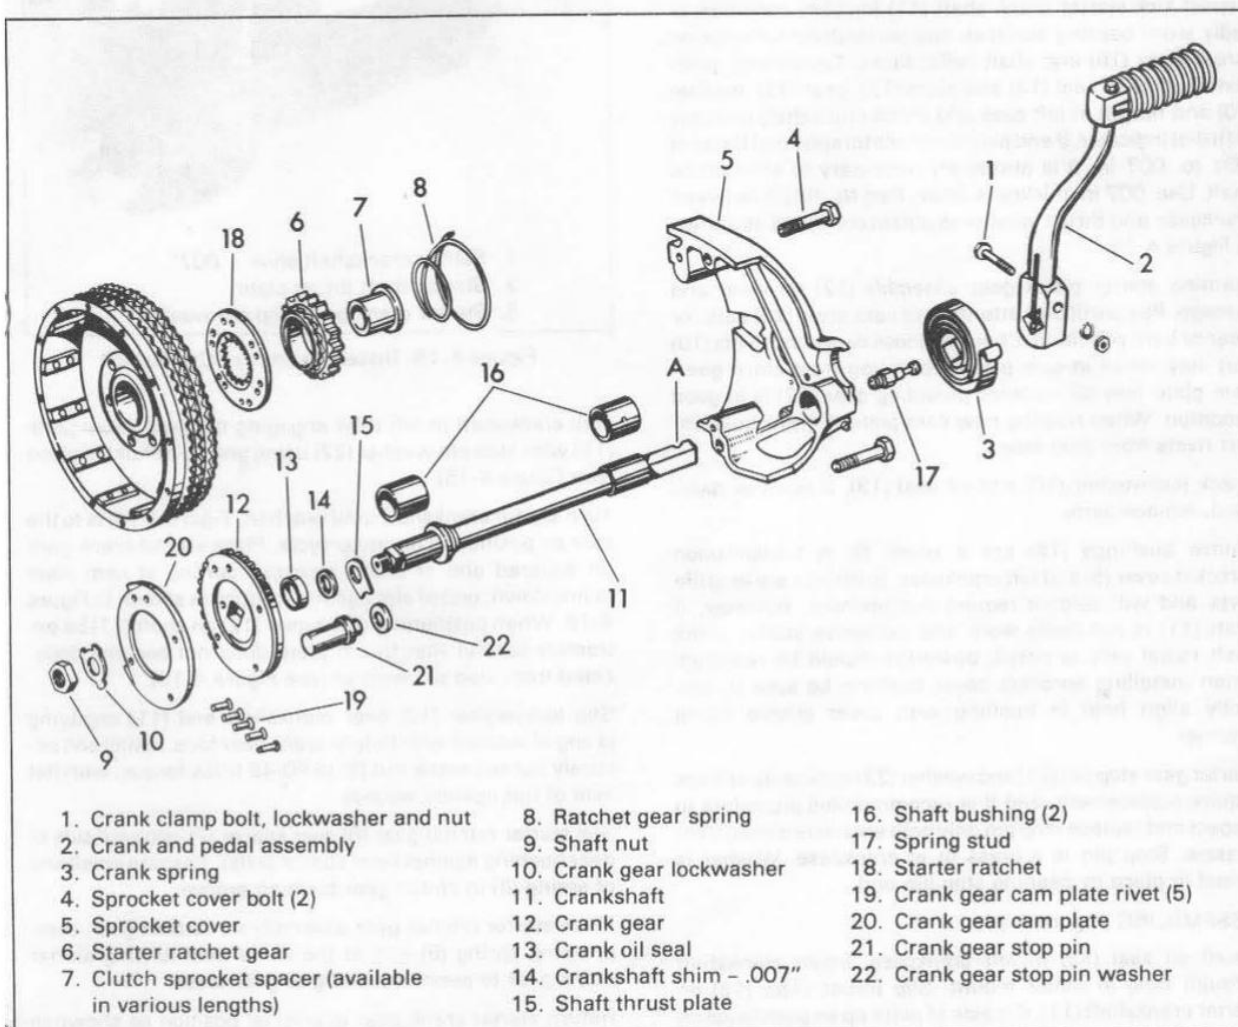
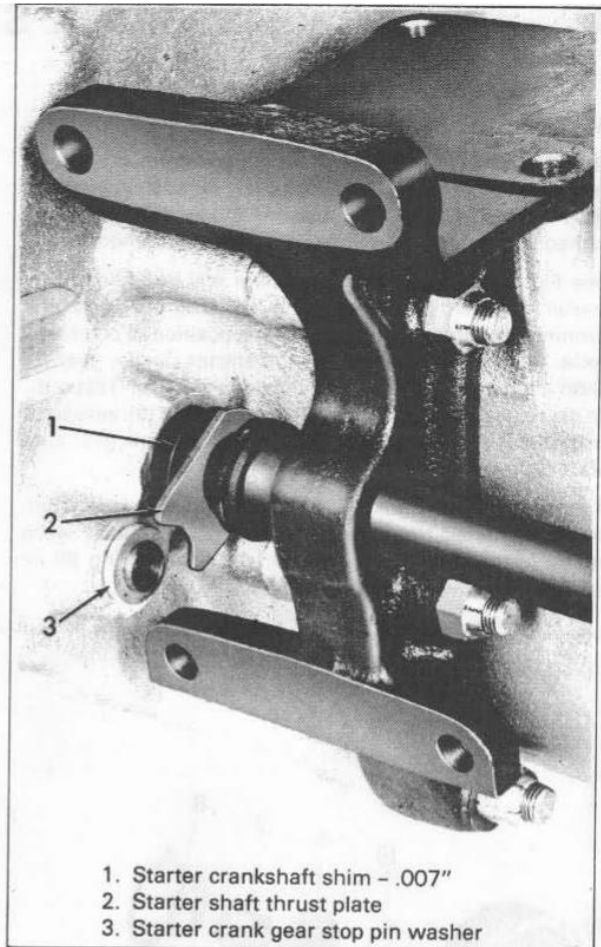
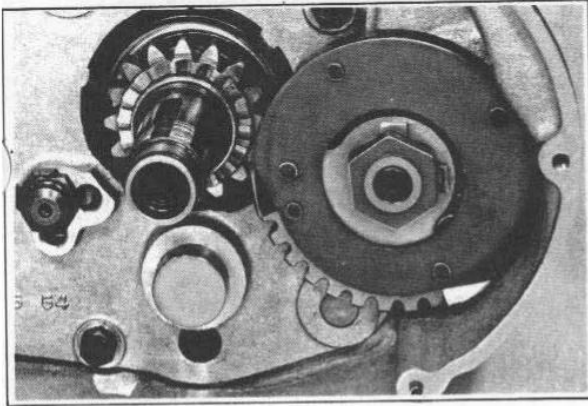

Figure 4-14. Kick Starter - Exploded View
Figure 4-15. Installing Starter Crankshaft
Figure 4-16. Positioning Starter Crank Gear on Starter Shaft
See Figure 4-14. A service problem will be indicated by starter ratchet gear ratcheting (clicking) with engine running, and starter crank upright as positioned on motorcycle. Ratcheting is caused by the starter ratchet gear (6) teeth making partial contact with starter ratchet (18) teeth, as the result of either a loose starter shaft nut (9), excessive crank shaft (11) end play or a loose starter crank gear cam plate (20).
DISASSEMBLING (Figure 4-14)
INSPECTING AND REPAIRING (Figure 4-14)
Inspect kick starter crank shaft (11) for bent condition or badly worn bearing surfaces and particularly for wear on thrust plate (15) and shaft collar faces. Temporarily position shaft (11), seal (13) and plate (15), gear (12), washer (10) and nut (9) in left case and check crankshaft end play with dial indicator. If end play is not within specified limits of .001 to .007 in. it is absolutely necessary to shim crank shaft. Use .007 in. thickness Shim, Part No. 6802, between crankcase and thrust washer to obtain correct fit as shown in Figure 4-15.
ASSEMBLING (Figure 4-14)
stall crankshaft in left case engaging notched thrust plate (15) with stop pin washer (22) using grease to hold in place (see Figure 4-15).
Turn starter crankshaft until notch (A, Figure 4-14) is to the rear as positioned on motorcycle. Place starter crank gear on squared end of shaft, recessed portion of cam plate facing down, end of slot against stop pin as shown in Figure 4-16. When positioning crank gear (12) on shaft (11) be extremely careful that thrust plate does not become dislocated from stop pin washer (see Figure 4-15).
Return starter crank gear to original position as shown in Figure 4-16, with ratchet gear held against cam plate by spring tension.
Slip spring (3) over squared end of shaft (11), end of spring and notch (A, Figure 4-14) up as positioned on motorcycle. Using a screwdriver rotate spring clockwise and engage with stud (17). Install bolt, lockwasher and nut (1).